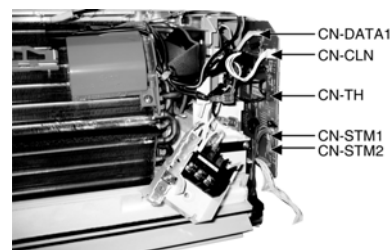

Fig. 5
- Release the CN-DATA1 connector (Fig. 5)
- Release the CN-TH connector (Fig. 5)
- Release the CN-CLN connector (Fig. 5)
- Release the CN-STM1 connector (Fig. 5)
- Release the CN-STM2 connector (Fig. 5)